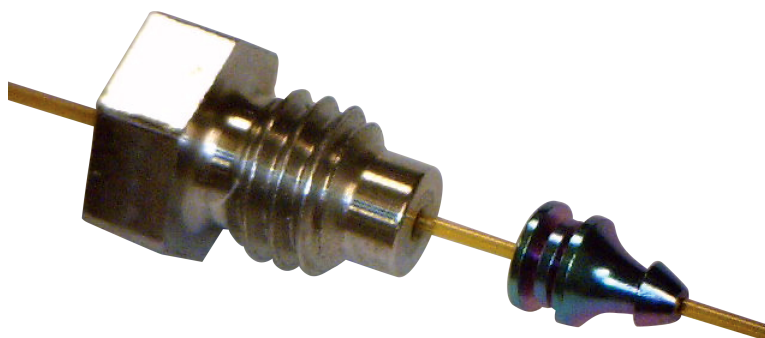

Figure 19. Ferrule swaged to column and column nut
7. Using the 1/4-inch open-ended wrench, turn the column nut an additional 15 to 20 degrees clockwise to assure the ferrule is properly swaged onto the column. See Figure 19.